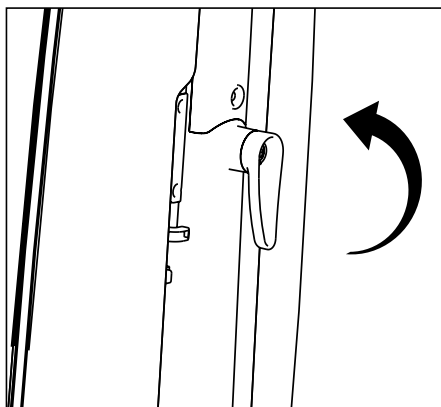

Fig. 2
- The lower cord hook rotates to allow for quick access to the power cord (Fig. 2). Turn the lower cord hook upward and you can quickly drop the power cord to the floor without unwinding it from the cord hooks.